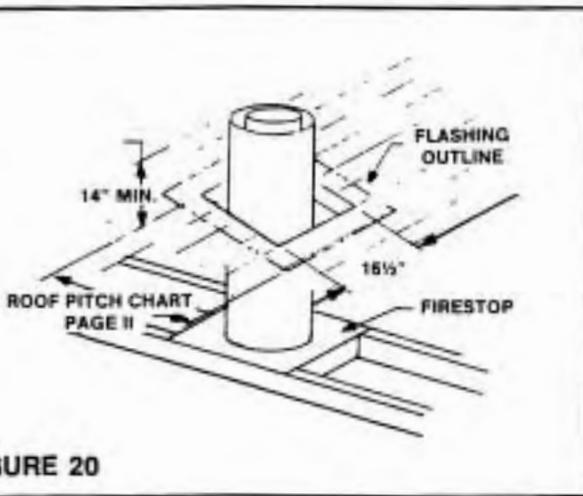

FIGURE 20
STEP 5: After cutting the hole in the roof, uncover the pipe and add sections until the chimney extends a minimum 14 inches above the highest point of the roof cutout (Figure 20).
STEP 6: Position the flashing over the chimney and flat on the roof. Mark an outline of the flashing on the roof and move the flashing. Remove all nails within the outlined area (Figure 20).